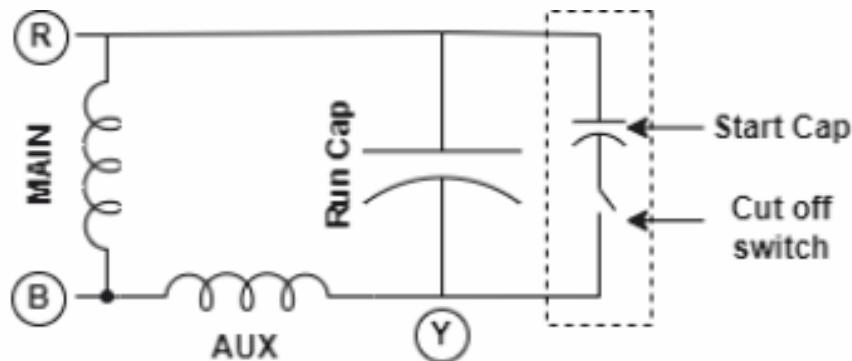
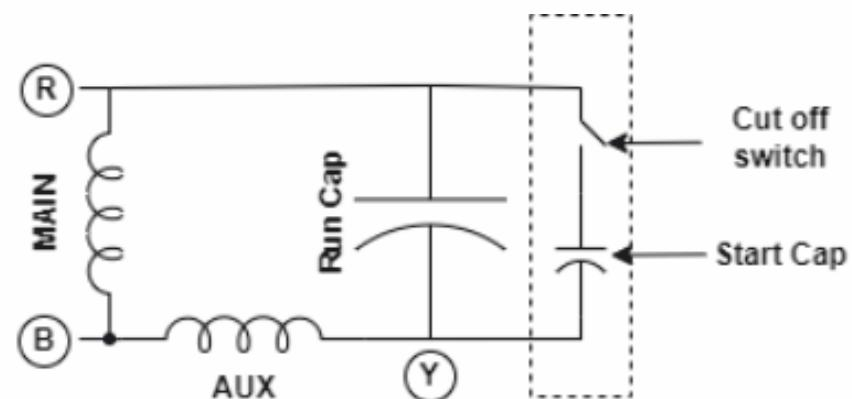

Fig 6.10a Connection diagram with cut-off switch connected to Aux winding
Fig 6.10b Connection diagram with cut-off switch connected to main winding
- Make sure that "B" wire of the drive connects to the "Common (C)/junction of main and Aux winding" of the motor. The controller makes VRB = Main winding voltage and VYB = Aux winding voltage.
- If someone wants to use the motor with the utility supply as well as USPC. A shakti changeover switch is required to switch the input power connection. The overall connection diagrams are shown in Fig 6.10a and Fig 6.10B, wherein the start capacitor should be connected on the utility side of changeover box.